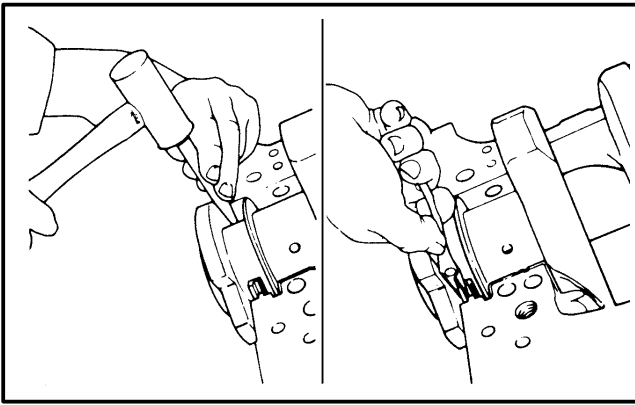

FIGURE 38. OIL SEAL, REMOVAL OF UPPER HALF
3. Use a hammer and a small punch. Lightly hit one end of the upper oil seal half to rotate it until it can be removed with a pair of pliers. See FIGURE 38.